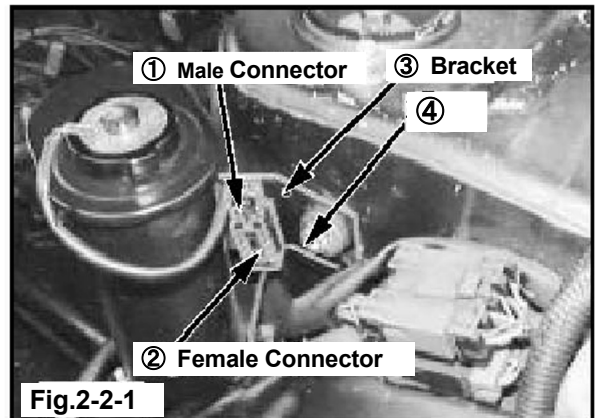

Fig.2-2-1
- 2) Disconnect the wiring connector ① and ②. (Fig.2-2-1)
- 3) Remove the female connector ② from the bracket ③. (Fig.2-2-1)
- 4) Remove ④. (Fig.2-2-1)
22) Attach ② to the power steering tank bracket No.2 using the bolts ① (Fig.2-2-1 ④) and a flange nut M6. (Fig.2-2-10)
23) Extend the sensor harness ③ with the power steering tank extension harness. Connect to female connector (Fig. 2-2-1 ②). (Fig.2-2-1, Fig.2-2-10)